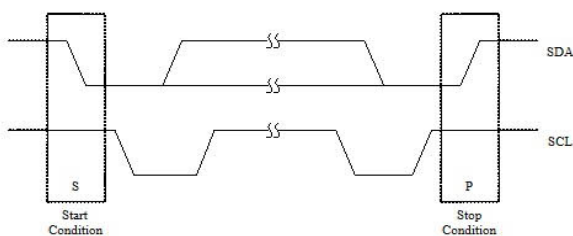

Figure 13. Start and Stop conditions
- Valid data: The data on the SDIO line must be stable during the high period of the SCK clock. Within each byte, MSB is always transferred first. Read / Write control bit is the LSB of the first byte. Please refer to Figure 13.